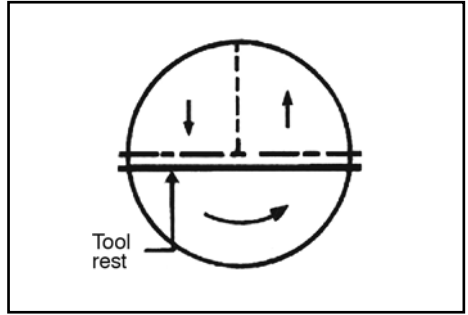

FIG. 25
10.7 POSITIONING CHISEL AND TOOL REST FOR DIAMETER SCRAPING – FIGS. 25 – 26
When diameter scraping, the area to the right of the centre is moving upward (Fig.25). If the chisel is placed in this area it will simply be carried up and off the tool rest, possibly out of your hands. So all diameter approach operations **MUST** be done at the left of the centre.